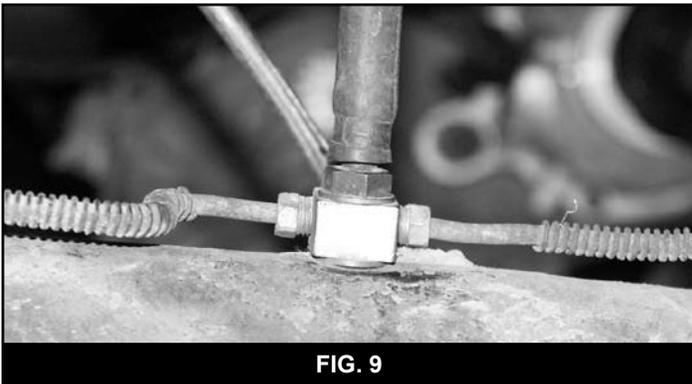

FIG. 9
7. Attach the axle brake lines to the new brake line junction block. Attach the junction block to the axle with the OE breather bolt. Torque bolt to 25 ft-lbs. Install breather hose. (Fig. 9)